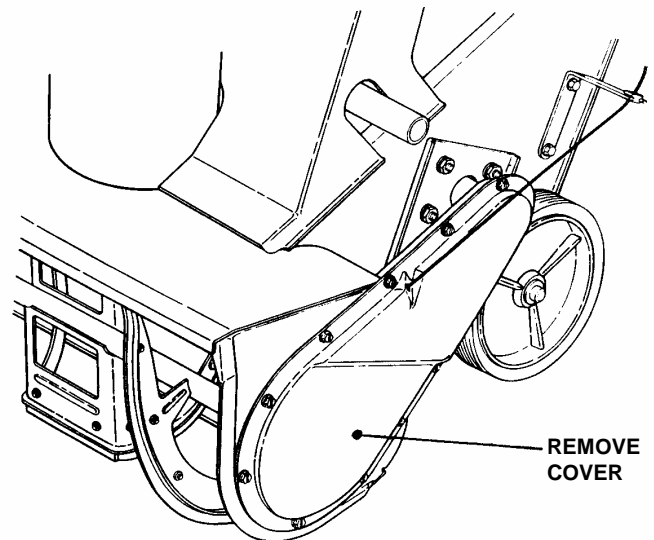

FIGURE 4.2
1. Remove belt cover. See Figure 4.2.